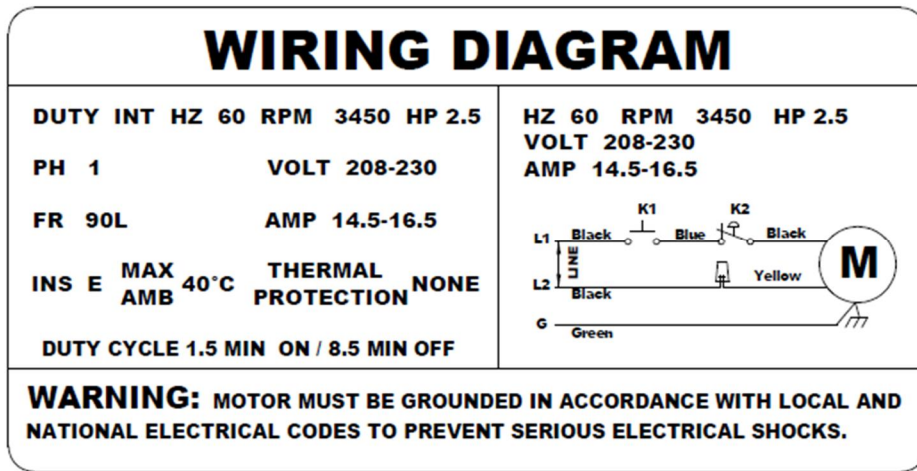

Fig. 14
1. Have a certified electrician make the electrical connection to the power unit. Use a separate circuit for each power unit, as shown below in (Fig. 14).